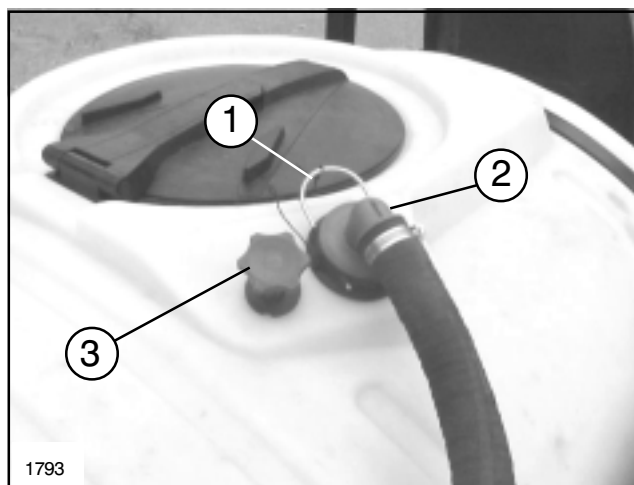

FIG. 6
15. TANK DRAIN CONTROL: Turn knob counterclockwise to open drain valve in bottom of tank. Turn clockwise to close valve. See FIG. 6.
16. SUCTION STRAINER: Remove fork in red elbow at top of the tank. Pull elbow out of filter housing. Remove the strainer. See FIG. 6.